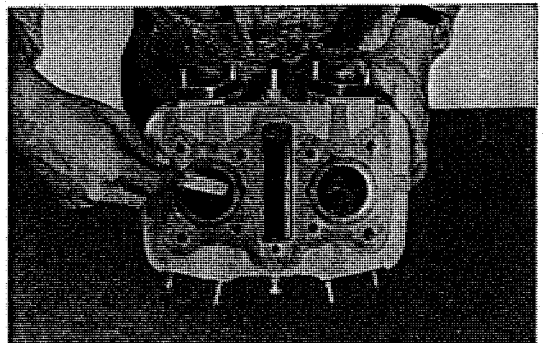

Fig. 3.16 Removing carbon
- (b) Carbon in the combustion chamber should be removed. (Refer to Fig. 3.16)